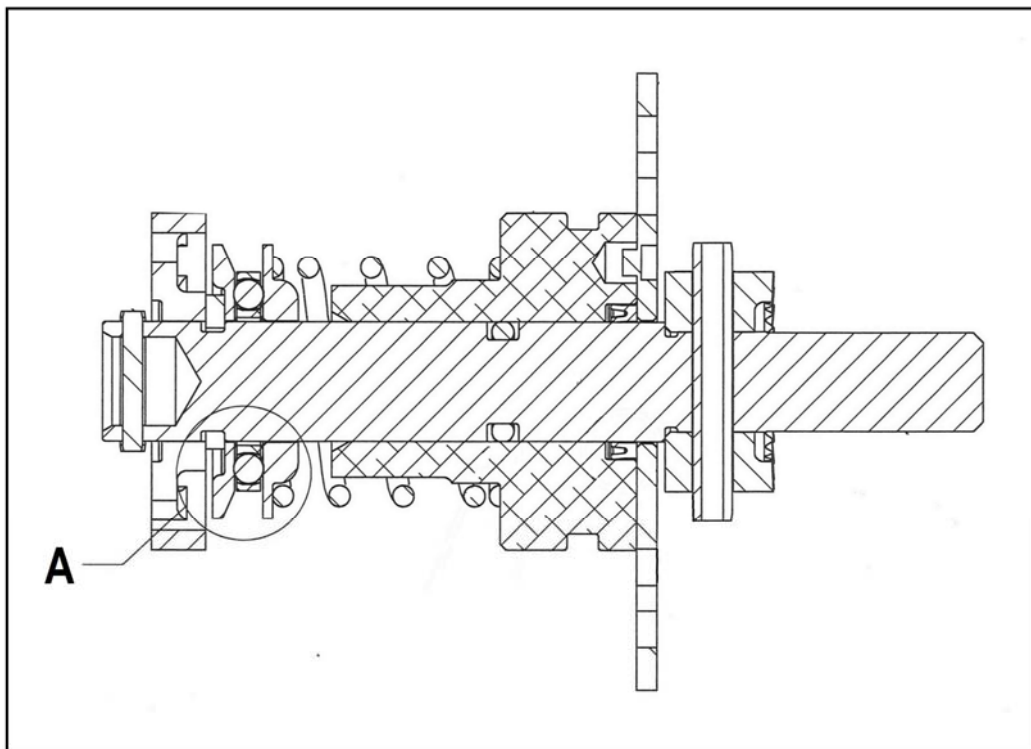

Figure 1, Mixture Valve
8. Apply a thin coating of Krytox or Braycote grease to the valve shafts and inside surface of the bushings using a Q-Tip swab. Slide the shafts into the bushings, then withdraw them part way. Wipe away any grease that extruded from between the shafts and bushings. The only grease that is inside the bushing should be left in the assembly. Wipe away excess grease in the bearing cavity (idle bushing) and above the spring seat (mixture bushing). Lubricate the bearing assembly with a drop or two of light oil. Complete assembly of the valves as shown in Figures 1, 2 and 3.